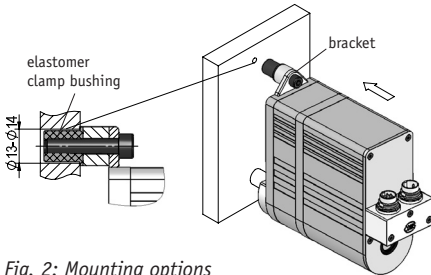

Fig. 2: Mounting options
- Mounting is via torque bracing (bracket, see fig. 2) and clamping of the shaft. Mount the gear with as little tension as possible. In order to achieve backlash-free radial fixation, we recommend to use the elastomer clamp bushing on the mounting bracket.
- Entirely slide the spring collet into the mounting bore (see fig 2) and then tighten it.